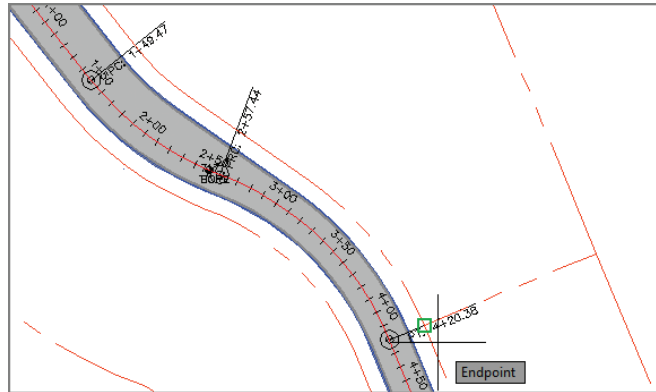

FIGURE 12.9 Selecting the beginning point of the frontage
5. When you're prompted to select the first point on the frontage, click the western endpoint of the lot line you previously created at station **4+20.38 (0+128.13)**, as shown in Figure 12.9.